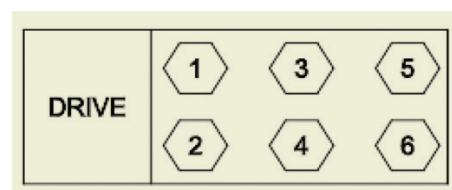

Figure 14
3. Torque bolts (**Item 42**) to 325 N-M (240 FT-LBS) using the numbered pattern above (**See Figure 14**).